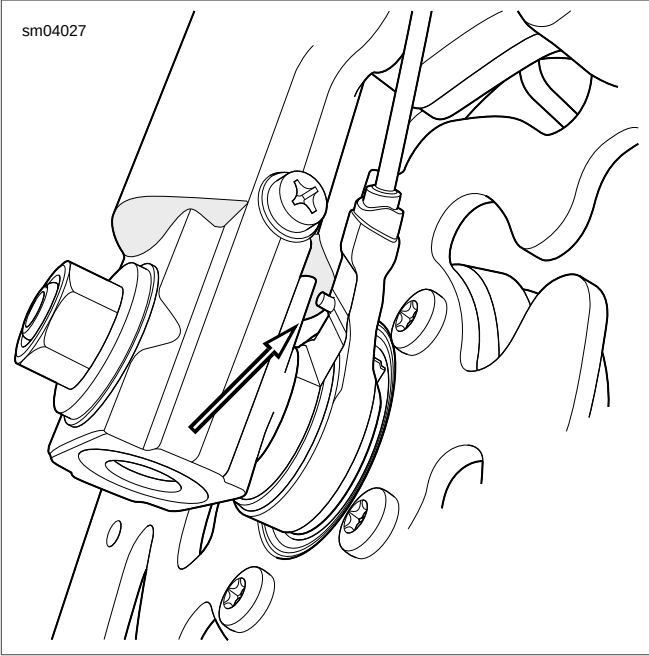

Figure C-11. Front Wheel Speed Sensor Index Pin (ABS Models)
2. Secure front wheel. See 2.4 FRONT WHEEL. Be sure to rotate front wheel speed sensor until index pin makes contact with shoulder on fork slider as shown in Figure C-11.